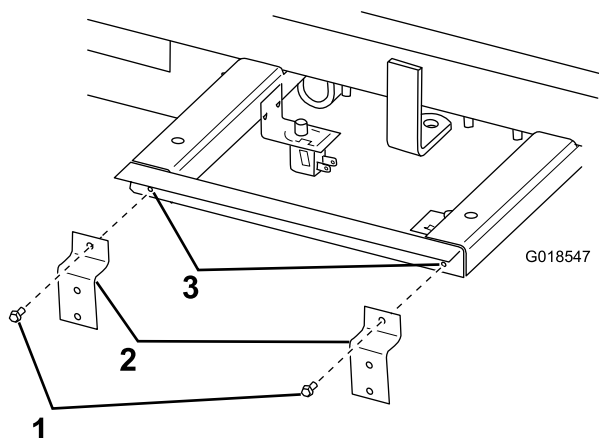

Figure 3
2. Use a mounting bracket as a template and drill 2 holes (3.6 mm diameter) in the frame on the left-hand side of the machine in the locations shown in Figure 3.
3. Install the mounting brackets (Figure 3).